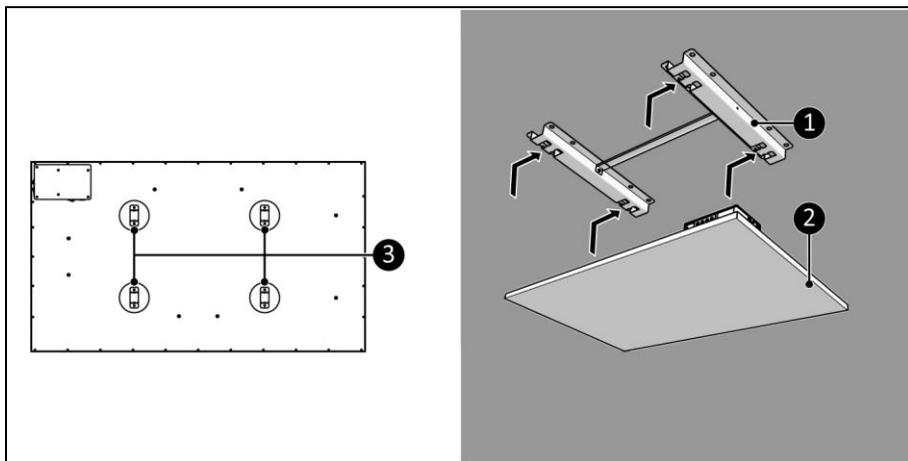

Figure 14
8. Place the device brackets (Figure 14, pos. 3) over the ceiling bracket (Figure 14, pos. 1).
9. Slide the device (Figure 14, pos. 2) into the openings of the ceiling bracket (Figure 14, pos. 1).